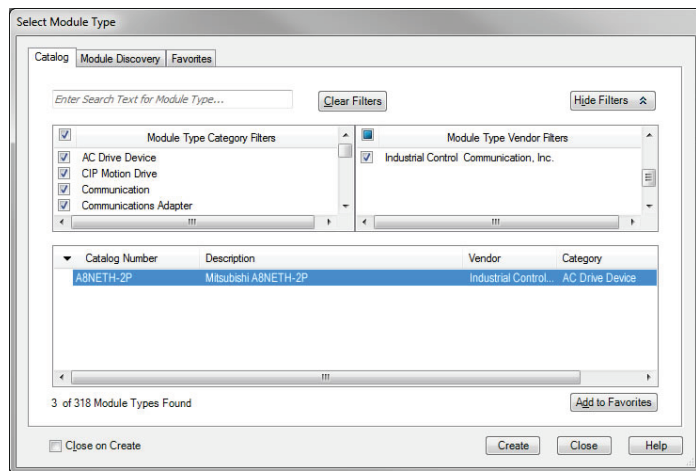

Figure 35: Adding a New Interface Card Module
11) Find the interface card in the “Select Module” dialog box as shown in Figure 35.